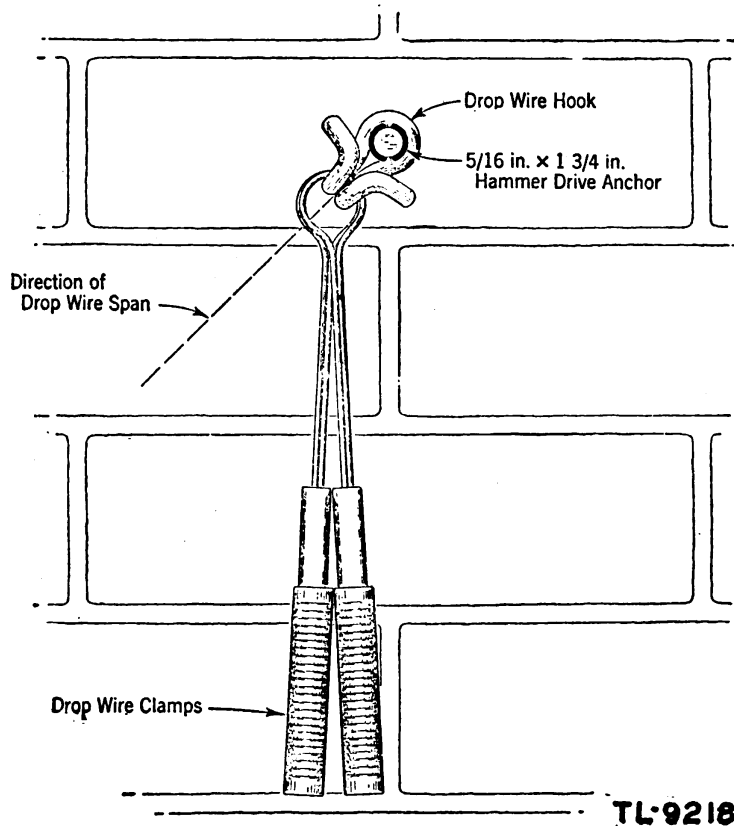

Figure 23. Drop wire hook installed on masonry surface.
k. **INSTALLING DROP WIRE HOOK.** (1) Place loops of two drop wire clamps over the small end of a drop wire hook before attaching the hook on masonry. On a brick wall, drill hole for anchor in the center of a brick.
(2) On brick-veneer buildings, attach the drop wire hook to an exposed frame portion of the building when practicable. A drop wire hook may be installed on brick veneer as on masonry, (1) above, provided that the hole for the hook can be drilled at center of brick without loosening or cracking the brick.
(3) When a drop wire hook is used on wood to support unexposed drops, place loops of the drop wire clamps over the small end of the drop wire hook before attaching the drop wire hook. Place screw in a stud, if practicable.
(4) Align drop wire hook with drop wire span before attachment is complete, as shown in figure 23.